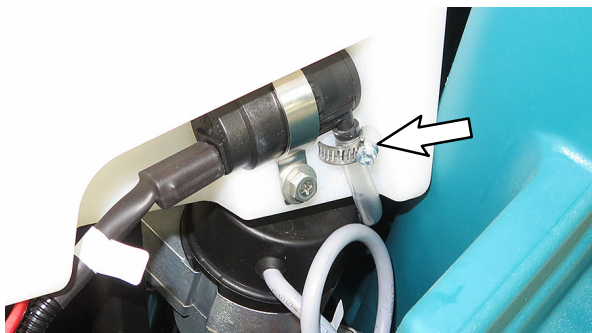

Fig. 5
7. Empty the water from the ABW tank and disconnect the water delivery hose from the pump (Figure 5).